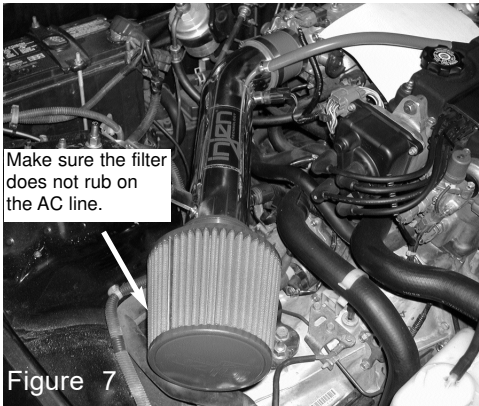

Figure 7
7. Press the Injen filter over the end of the intake and tighten the clamp on the filter. (See fig. 7)